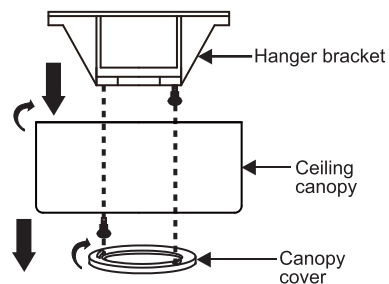

Fig. 5
Step 1. Remove the decorative canopy bottom cover from the canopy by turning the cover counter clockwise. (**Fig. 5**)
Step 2. Remove the ceiling mounting bracket from the canopy by removing (and save one of the two screws). Loosen the remaining screw by a half turn. (**Fig. 5**)